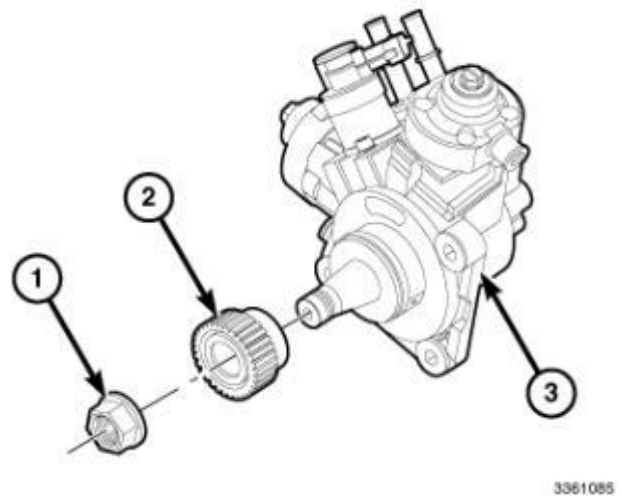

Figure 43 – O-ring Seal
- 78. Install the gear (2) and nut (1) onto the fuel injection pump (3) and tighten the nut (1) finger tight (Figure 43).